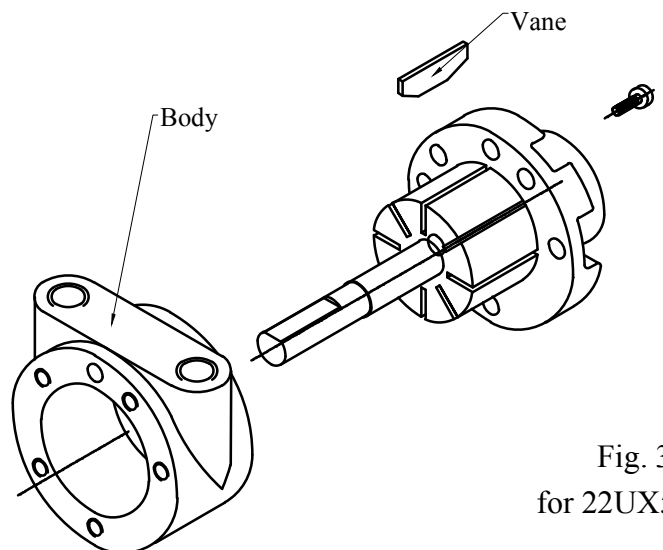

Fig. 3
6. Remove the body and vanes. Refer to fig. 3.